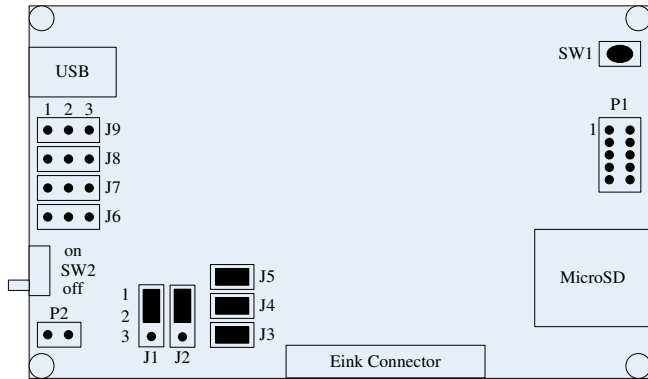

Figure 25. Correct Jumper Positions for Motion Switch Demo with Coin Cell Supply
1. Verify that the jumpers are configured as shown in Figure 25. Take off jumpers on J6-J9 for microcontroller normal operation if you want to test system current consumption with coin cell power supply. You can also configure the
- Coin Cell, all the portable demo shows or user portable applications verification can be supported by coin cell. When using coin cell supply, please make sure the jumpers J1 and J2 is at 1-2 position as shown in Figure 25 (There are notes on PCB board). The following circuits are powered by coin cell output directly in default. Another optional supply path which go through low power LDO is also offered to user. To do this, remove 0 Ohm resistor R24, solder 1uF capacitor at C30 and C31 position, solder ADP160AUJZ-2.7-R7 at U9 position. The on/off of coin cell can be controlled by SW2.